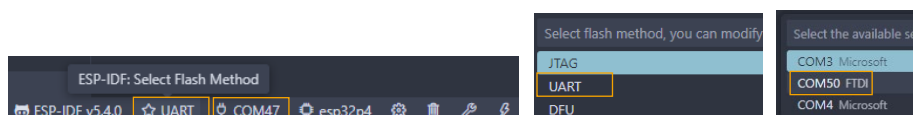

Fig. 5.4.1. Selecting “UART” as flash method
3. Select “UART” as Flash Method and select the COM port of FTDI FT234XD on AIMEZ-V-PLUS board as shown in Fig. 5.4.1.